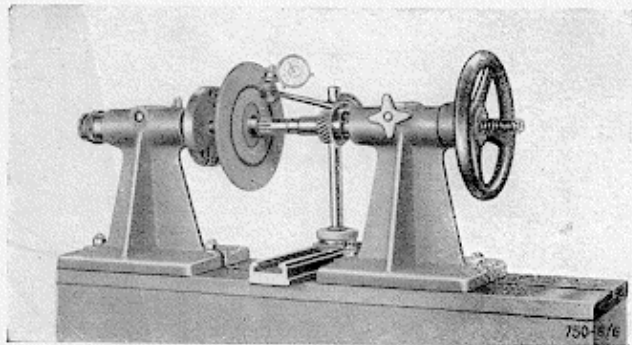

Fig. 6 - Checking the centring of the driven clutch plate
- 5) Check that the driven-plate is not running out of true (**tolerance: 0.5 mm.**) by means of a comparator after fixing the plate on the clutch shaft, and mounting the shaft between 2 centres (Fig. 6). If necessary, centre the plate by pressure on the plate surfaces only.